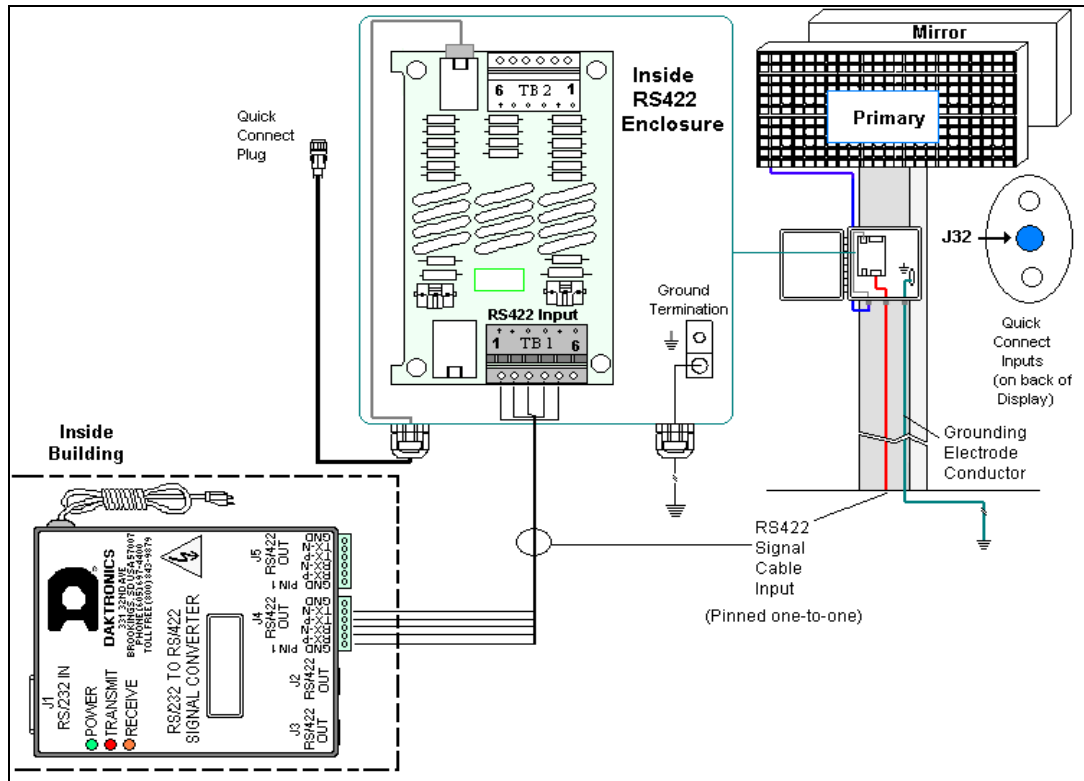

Figure 3: Signal Converter to Surge Board Assembly Enclosure
3. Connect the 4-conductor shielded cable to either J4 or J5 on the signal converter and to TB1 on the surge suppressor (0P-1146-0031) in the enclosure as shown in **Figure 3** and the provided table. The cable is pinned one-to-one.